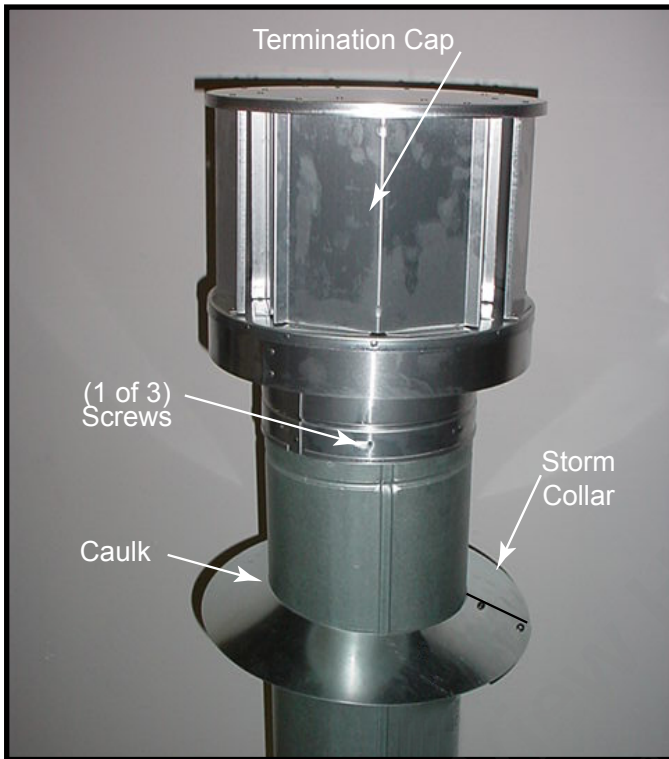

Figure 10.14
- Caulk around the top of the storm collar. See Figure 10.14.
- Secure the cap by driving three self-tapping screws (supplied) through the pilot holes in the outer collar of the cap into the outer flue of the pipe (see Figure 10.14).